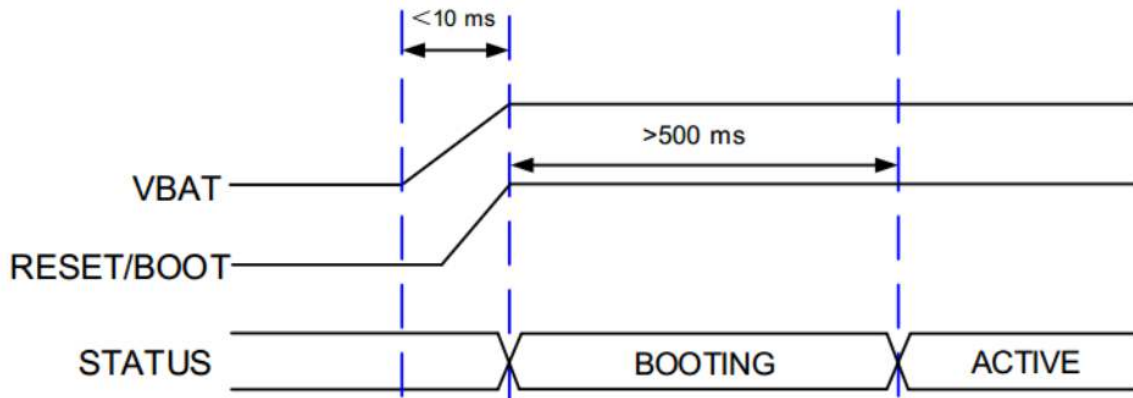

Figure 11 NB chip power on electric timing diagram
- 1) The pull-up resistor of the WAKEUP pin of the NB chip is very weak and tolerant to interference. To avoid abnormal wake up of the module in the dormant state, add RC filter circuit in the WAKEUP pin(as shown in Figure 11). No this RC circuit exists inside the module,
2) If the external MCU GPIO is connected to the WAKEUP pin of the module through triode (as shown in Figure 11), the leakage current of the triode cut-off state is required to be less than 0.5uA, because the internal pull-up of WAKEUP is weak and the WAKEUP pin below 1.2V. It is possible that the NB chip can not be awakened by the WAKEUP pin in a dormant state.
- ① With a MOS tube instead of the triode, most MOS leakage current is small.
- ② The pull-up circuit is reserved on the circuit (as shown in Figure 11). The voltage range of VCC is 1.8V~3.6V and often open. Do not use the electricity from the NB module.